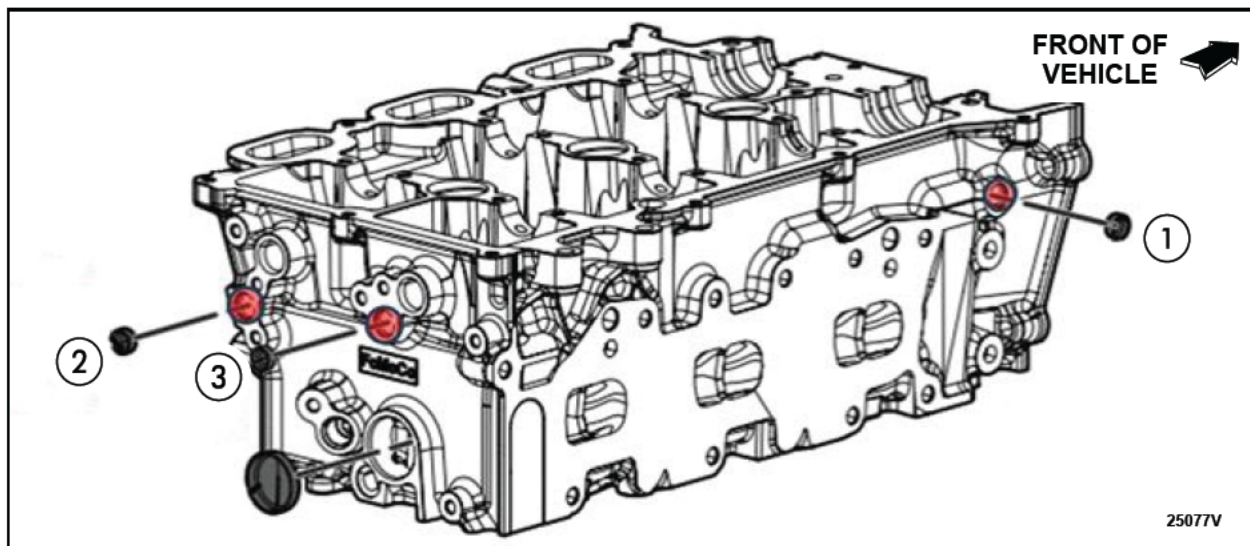

FIGURE 8
* For cup plug locations, See Figure 8 below.